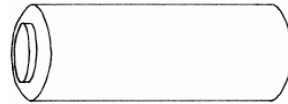
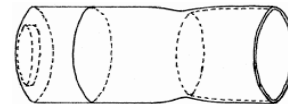
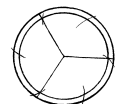

Fig. 1
Fig. 2
Fig. 3
1. Round off a stock as though you were doing a spindle turning. The stock should be of an appropriate size, approximately 10" long by 5" diameter. Use a piece of thoroughly dried wood because multi-centered turning requires stability in the stock. Turn a tenon for mounting on a chuck, such as a Nova or a Oneway chuck (Fig. 1). Turn the top and the body to shape and thickness without too much a taper, and finish-sand (Fig. 2). Part the half-finished vessel at an appropriate position, about 3" from the tenon (Fig. 2). Mark 3 equally divided radii on the bottom. [Draw a circle and without changing the compass, divide the circle into 6. Connect every other point with the center (Fig. 3)].